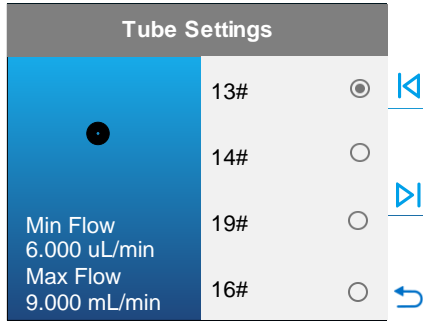

Figure 25. Tubing Select
- **Tubing** - Choose the appropriate tubing size for selected pump head. use   view the menu ,details as figure25